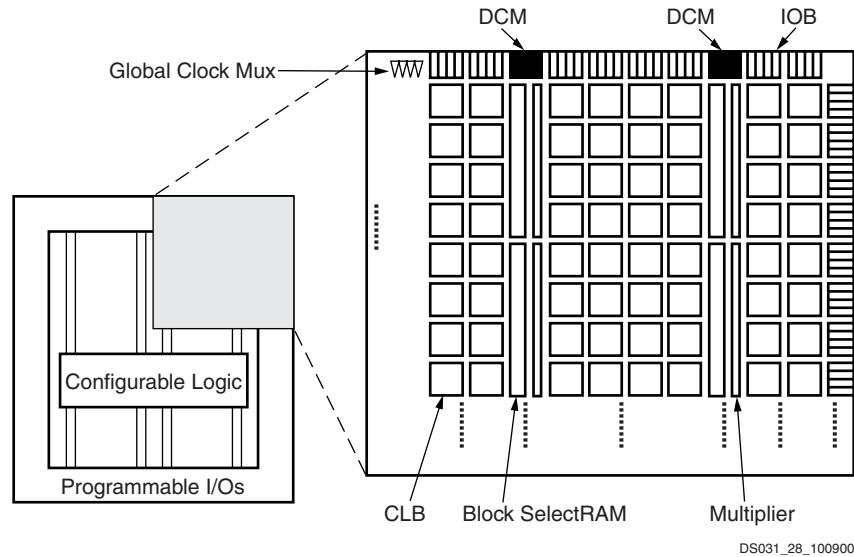

Figure 1: Virtex-II Architecture Overview
Virtex-II devices are user-programmable gate arrays with various configurable elements. The Virtex-II architecture is optimized for high-density and high-performance logic designs. As shown in Figure 1, the programmable device is comprised of input/output blocks (IOBs) and internal configurable logic blocks (CLBs).
2. Output timing is measured at 50% V_{CC} threshold with test setup shown in Figure 1. For other I/O standards, see Table 19.